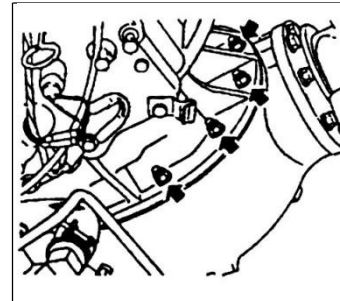

Fig.1-3
- (11) Remove nuts securing axle case to differential gear carrier. (see fig.1-3) .
- (12) Remove driving axle assemble.